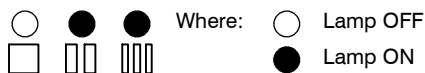

Fig. 8.10
- 15 Press the reset button 6 repeatedly (5 times) until the lamps 9 give the indication as in Fig. 8.10 (gas type mode 2).